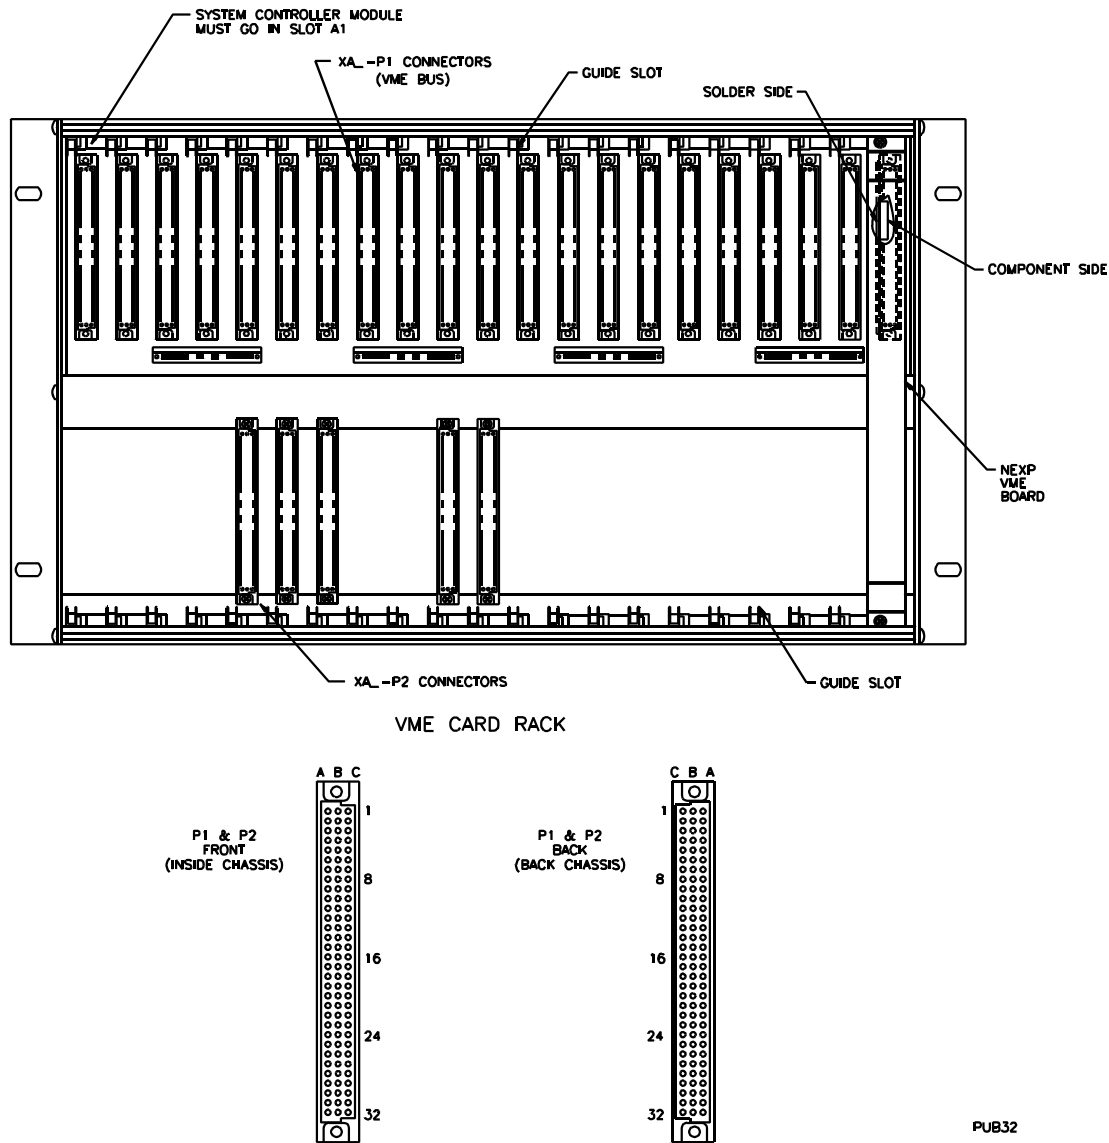

Figure 14.1.4. VME Rack 7A1A1A2, Front View
14.1.8.1.1 **VME Rack 7A1A1A2 Description**. The VME rack assembly, shown in figure 14.1.4, contains 2 rows of 96-pin connector sockets on the backplane for up to 21 printed circuit card assemblies (CCA's). Reference designators for each card are located on a marker strip at the top-front of the rack. The top row of connectors are for the 32-bit VME data bus, while the lower row provides interconnections and operating voltages. Three exhaust fans are mounted beneath the rack to force cooling air upward, between, and around installed CCA's.